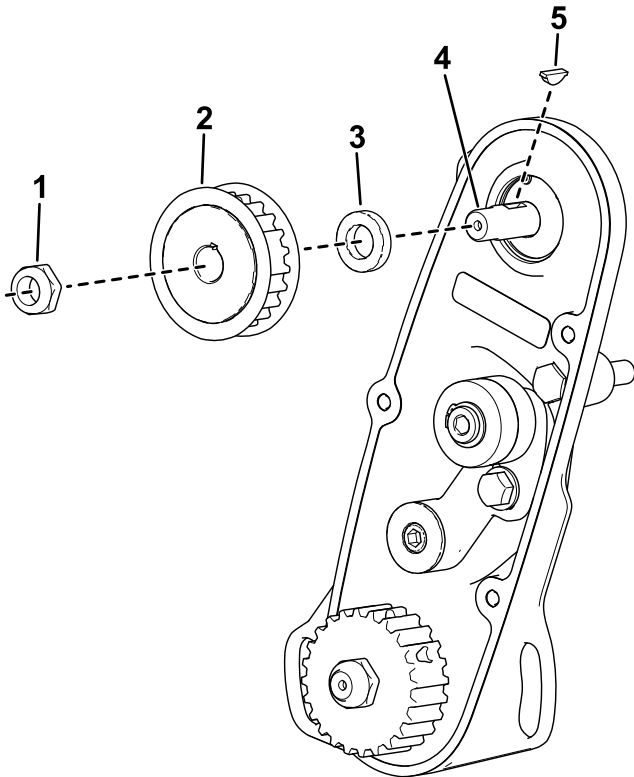

Figure 6
- B. Install the spacer (Figure 6).
- C. Install the key into the driveshaft keyway (Figure 6).
- D. Install the pulley (Figure 6).
- E. Use the nut to secure the new reel driveshaft to the assembly (Figure 6).